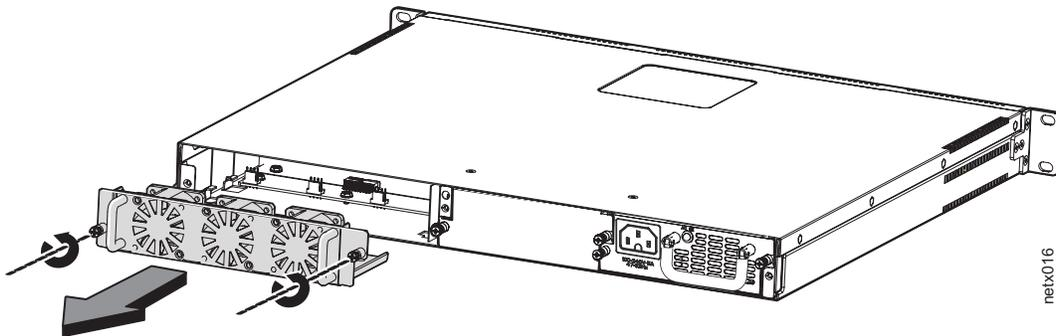

Figure 25. Removing the fan tray
2. Loosen the two captive screws on the front plate of the fan tray and slide the tray out of the device as shown in Figure 25.